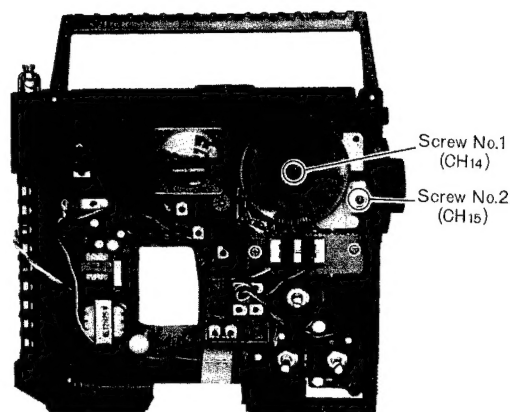

Fig. 2
3. Remove dial drive assembly screw, no. 2 as illustrated in fig. 2.
6. Remove dial scale and back plate screw, no. 1, as illustrated in fig. 2.